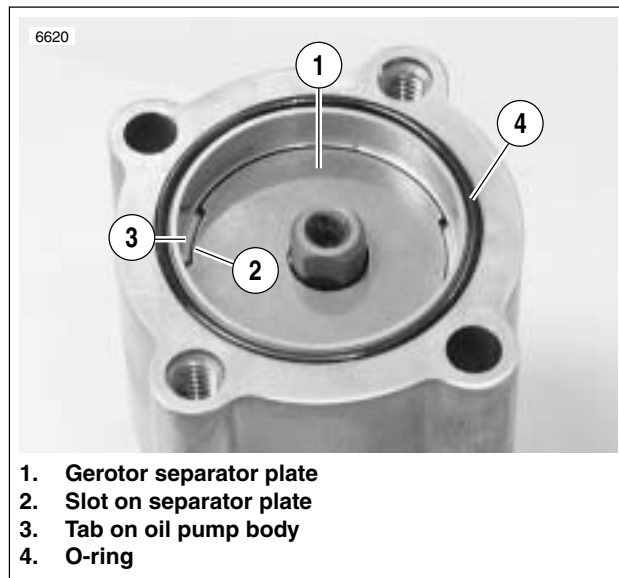

Figure 3-98. Separator Plate Slots
3. See Figure 3-98. Check gear shaft teeth for damage or wear. Replace if necessary.
4. See Figure 3-98. Install gerotor separator plate by lining up slots on perimeter with tabs inside oil pump body.